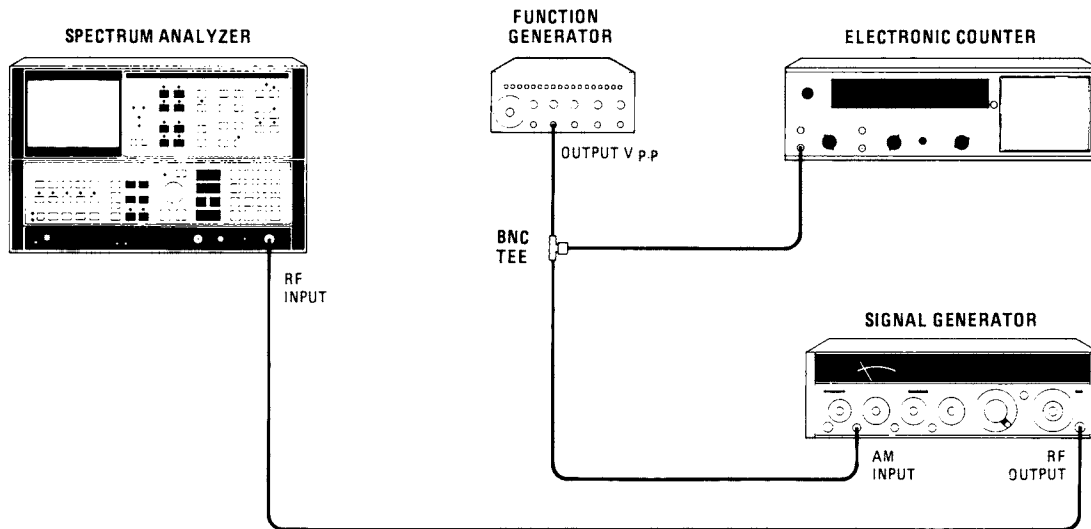

Figure 4-28. Sweep Time Accuracy Test Setup (Alternate Procedure)
1. Connect equipment as shown in Figure 4-28. Signal Generator AM switch should be in the OFF position.